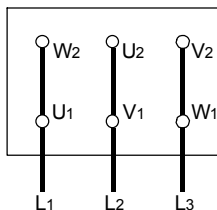

Fig. 13a.  $\Delta$  - connection
- The mains connection on the tagboard depends on the nominal power of the motor, the power supply and the type of connection. The necessary connection of the bridges in the terminal box is shown in the following (Table 1. and Fig. 13a, 13b, 13c).